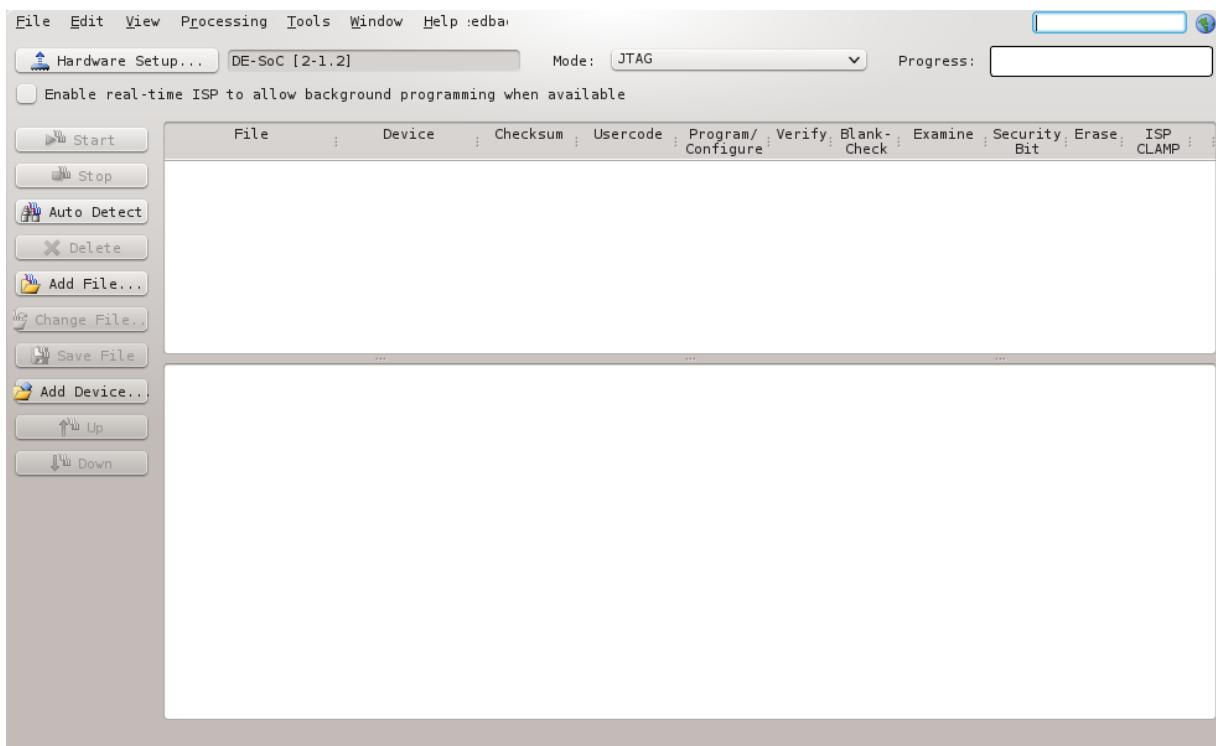

Figure 8-15. Quartus II Programmer
37. Choose the “Auto Detect” button on the left of Figure 8-15, then choose “5CSEMA5”, as shown in Figure 8-16.